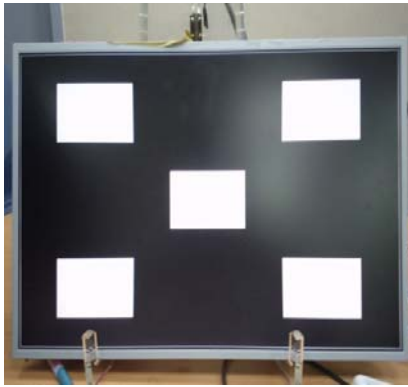
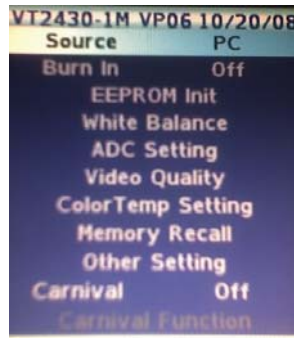

figure 1
figure 2
A. Enter to the factory mode, Source select “D_Sub” figure 2, Use 1920x1080@60Hz the pattern is “5 block” figure 1, then move the cursor to the White Balance figure 3. Press “▶” key. That will do auto white balance.